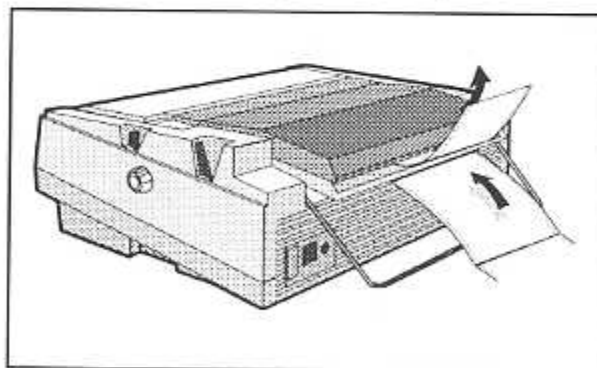

Figure 3-9. Checking the Exit Path
9. Press the Form feed button on the control panel. The printer advances the paper to the first printable line. After printing begins, make sure the paper exits the printer from under the printer window, as shown in figure 3-9.